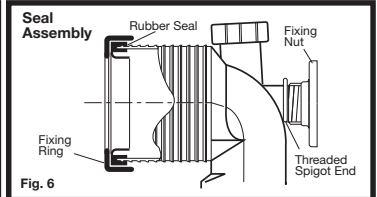

Fig. 6
- 8- Position rubber seal over the front of the connector and secure with the fixing ring, as detailed in Fig. 6.